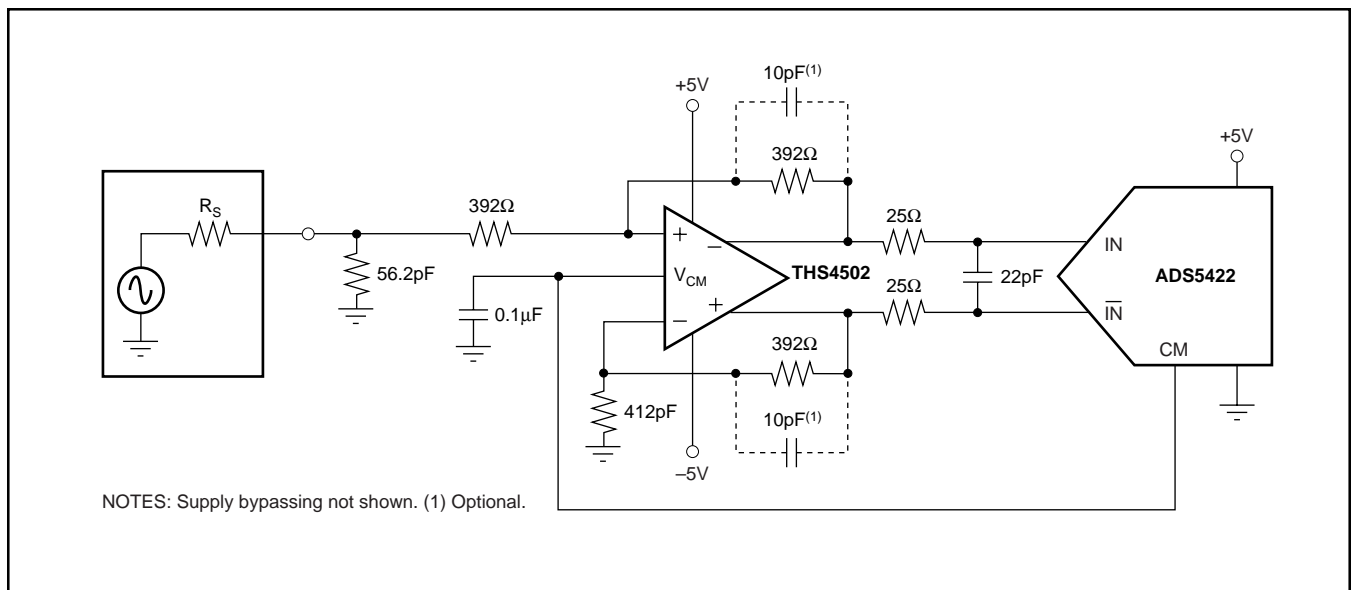

FIGURE 3. Using the THS4502 Differential Amplifier (Gain = 1) to Drive the ADS5422 in a DC-Coupled Configuration.
The following section provides some principal circuit suggestions on how to interface the analog input signal to the ADS5421. Applications that have a requirement for DC-coupling a new differential amplifier, such as the THS4502, can be used to drive the ADS5421, as shown in Figure 3. The THS4502 amplifier allows a single-ended to differential conversion to be performed easily, which reduces component cost. In addition, the V_{CM} pin on the THS4502 can be directly tied to the common-mode pin (CM) of the ADS5421 in order to set up the necessary bias voltage for the converter inputs. As shown in Figure 3, the THS4502 is configured for unity gain. If required, higher gain can easily be configured, and a low-pass filter can be created by adding small capacitors (e.g., 10pF) in parallel to the feedback resistors. Due to the THS4502 driving a capacitive load, small series resistors in the output ensure stable operation. Further details of this and other functions of the THS4502 may be found in its product